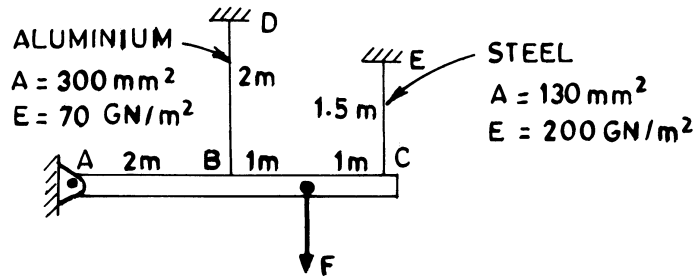

Fig. 4
6. Determine the stresses in each wire supporting the rigid bar shown in Fig. 4 if $F = 20 \text{ kN}$.